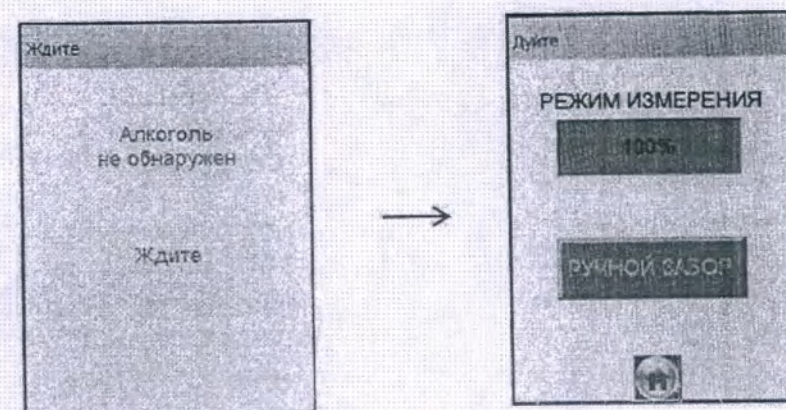

Figure 14 – Readiness for sampling
– if the test result is positive (in the absence of ethanol and other components), the analyzer will go to the window ready for sampling (Figure 14 on the right);